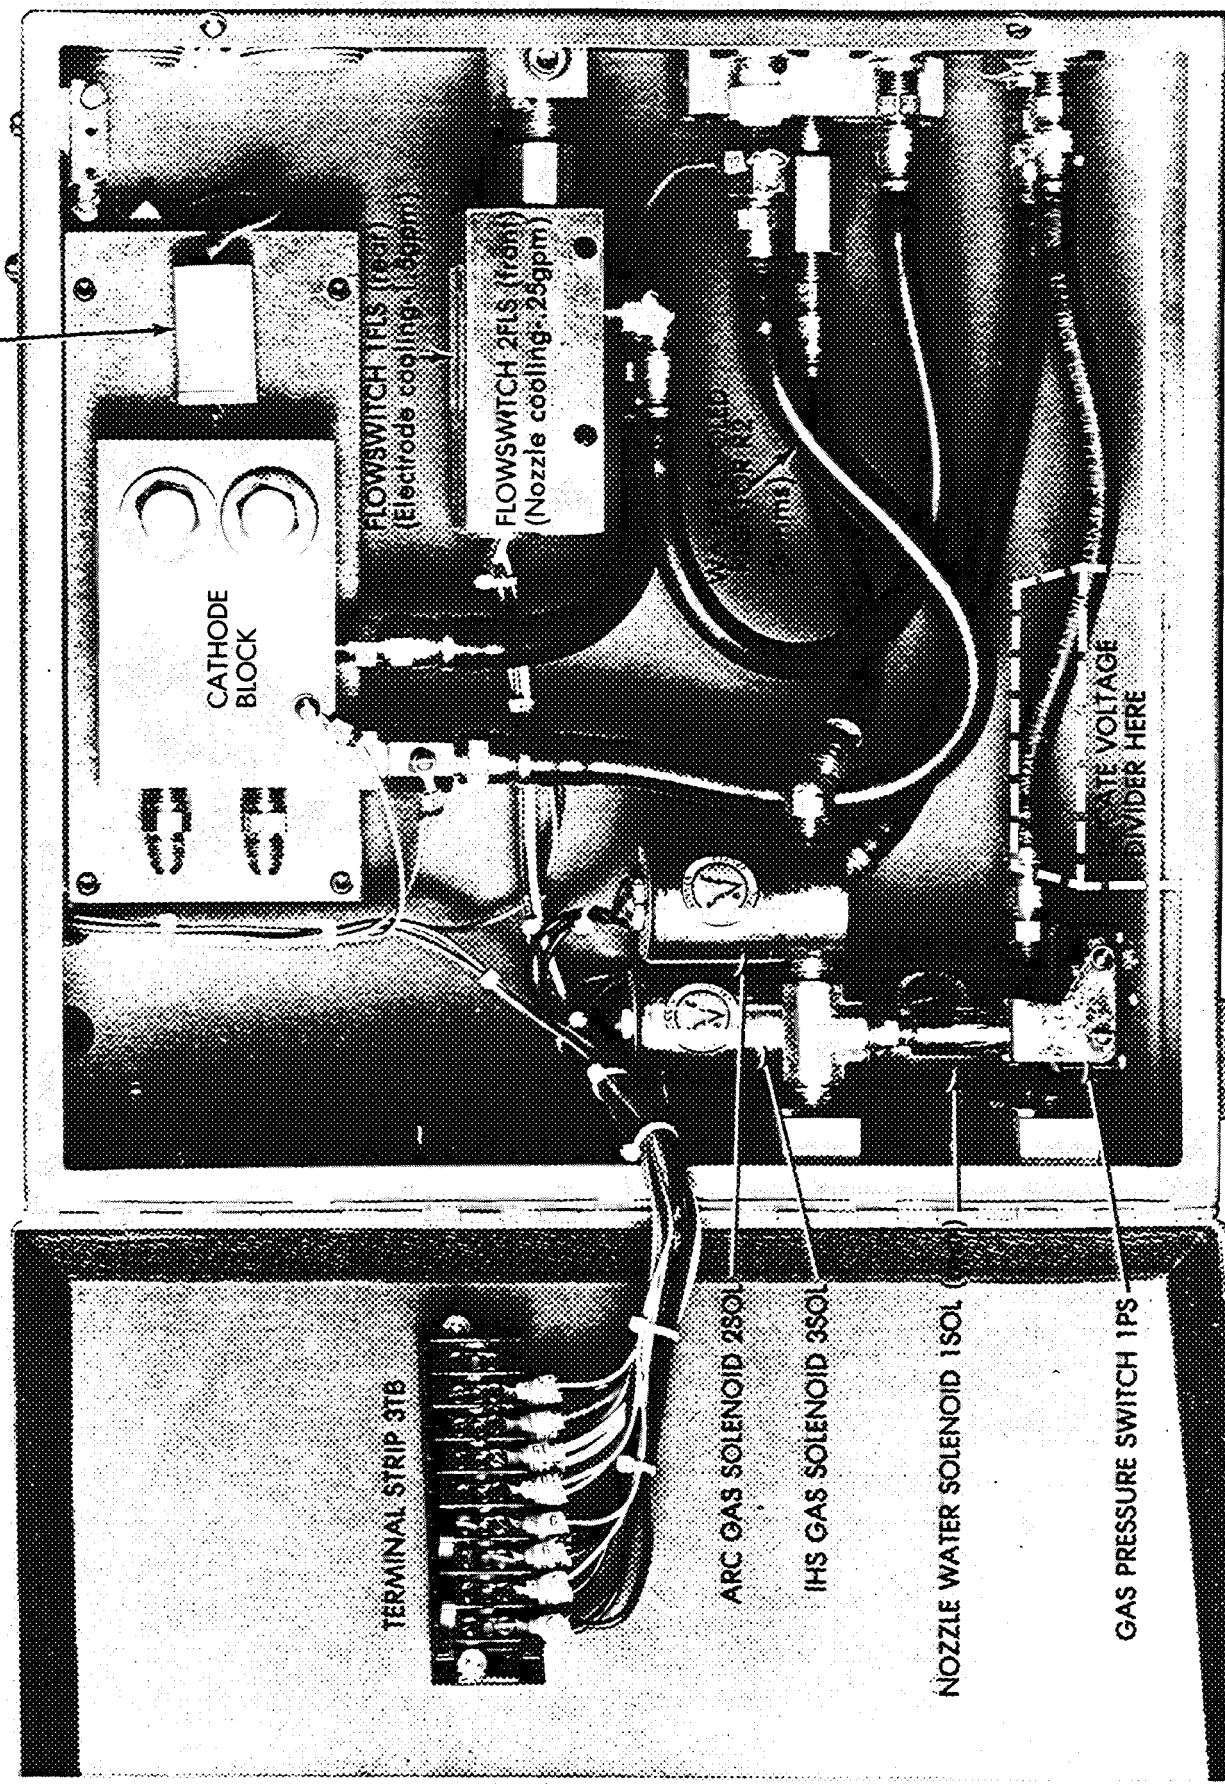

Figure 8.
- FIGURE 8 LOCATING VOLTAGE DIVIDER